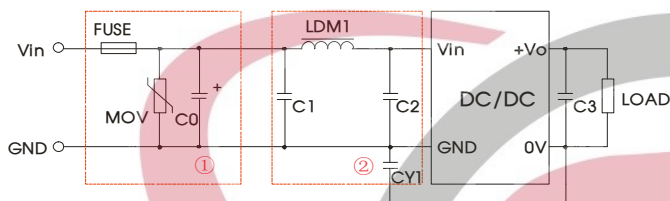

Fig. 3
Notes: Part ① in the Fig. 3 is used for immunity test and part ② for emissions filtering; Selecting based on needs.